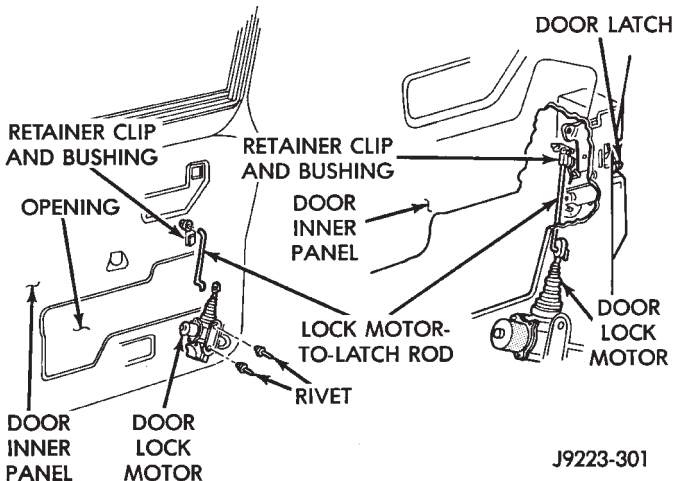

Fig. 77 Door Lock Motor
- (7) Remove the door latch from the door face.
- (8) For vehicles equipped with power door locks, remove the lock motor rivets. Remove the motor and latch as a unit from the door. Detach the rod and motor from the latch (Fig. 77).
- (1) If necessary, install a replacement latch striker.
- (2) For vehicles equipped with power door locks, attach the rod and lock motor to the latch. Attach the lock motor to the door panel with either rivets or with bolts and nuts (Fig. 77).